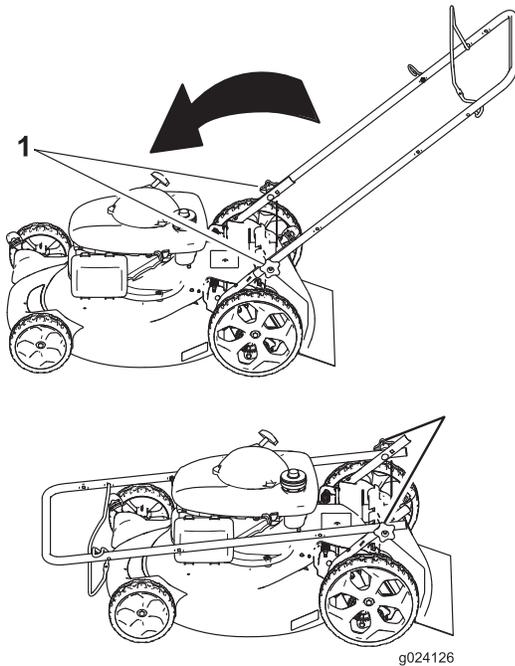

Figure 23
1. Loosen the handle knobs until you can move the handle freely (Figure 23).
1. Handle knob (2)
2. Move the handle forward as shown in Figure 23.